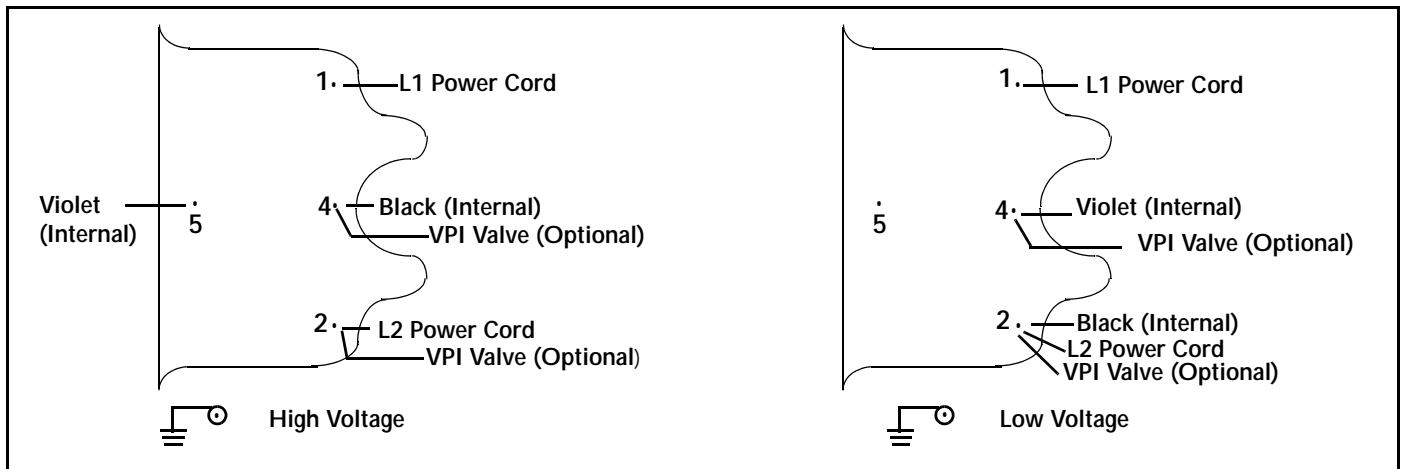
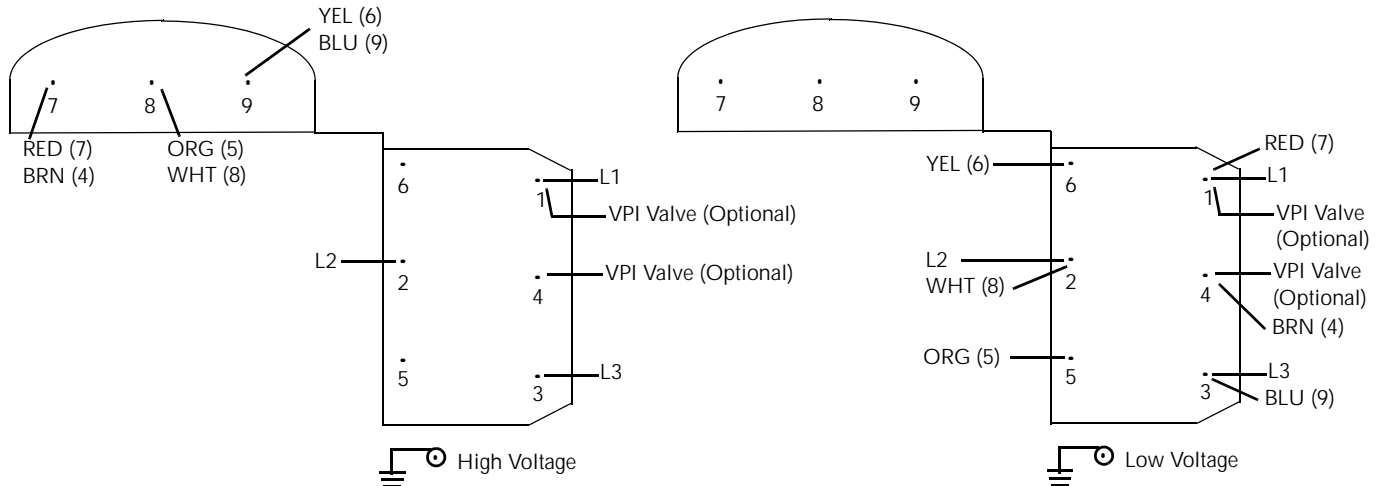

Figure 4 Single Phase Motor Electrical Connections
Figure 5 Three Phase Motor Electrical Connections
The pump can be configured for low voltage, 100 VAC to 115 VAC, or for high voltage, 200 VAC to 230 VAC. Low voltage exists between connection points "4" and "Line 2" whether the pump motor is configured for low or high voltage. Figure 4 shows the electrical connections for a single phase motor.
3. Refer to Figure 4 to connect the motor to match your supply voltage.
4. Wire L1 and L2 per Figure 4 using right angle flag connectors or ring connectors. Ensure that no exposed wiring is close to the electrical cover or to other terminals on the board.
6. Replace the motor electrical cover and secure it with three (3) screws removed in step 2.
The pump can be configured for low voltage, 200 VAC to 230 VAC, or for high voltage, 380 VAC to 415 VAC and 460 VAC. As supplied from the factory, the pump is configured for low voltage. Figure 5 shows the electrical connections for three phase motor.
3. Refer to Figure 5 to connect the motor to match your supply voltage.
4. Wire L1, L2 and L3 per Figure 5 using right angle flag connectors or ring connectors. Ensure that no exposed wiring is close to the electrical cover or to other terminals on the board.
6. Install the motor electrical cover and secure it with three (3) screws removed in step 2.
Using the data in Table 19, verify that the VPI Valve chosen is compatible with the TriScroll supply voltage and frequency. Then, locate the proper wiring diagram to use (Figure 4 on page 36 or Figure 5 on page 37).
2. Connect the VPI Valve solenoid wire leads to the pump motor as shown in Figure 4 or Figure 5.